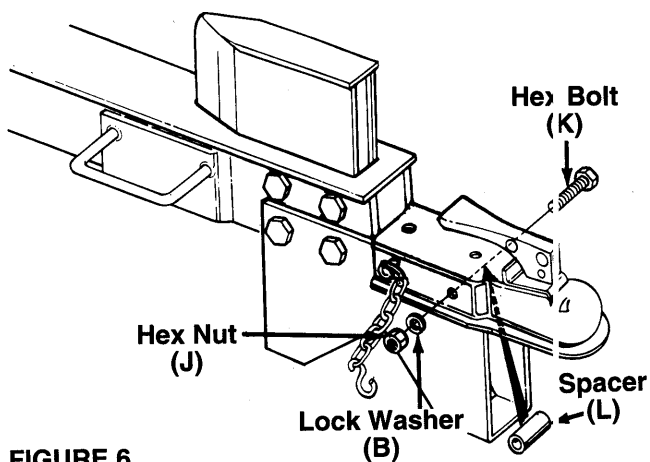

FIGURE 6.
2. Place spacer (L) inside the beam stand. Insert hex bolt (K) through forward hole in hitch, beam stand and spacer. Secure with lock washer (B) and hex nut (J). See figure 6.